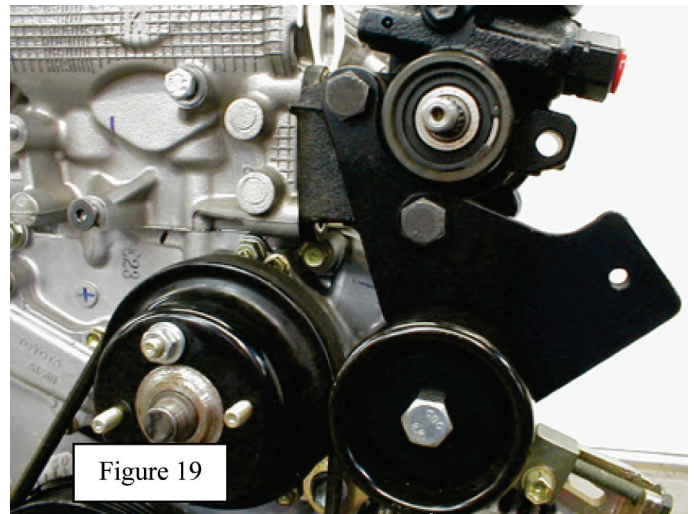

Figure 19
41. Install the supplied idler pulley bracket to the front of the power steering pump. See Figure 19. Note pulley is removed for photos only. Use (2) 10mm x 1.25 x 100mm long bolts supplied. Both bolts replace the OE bolts removed in Step 40. Torque bolts to 39 29 ft-lbs